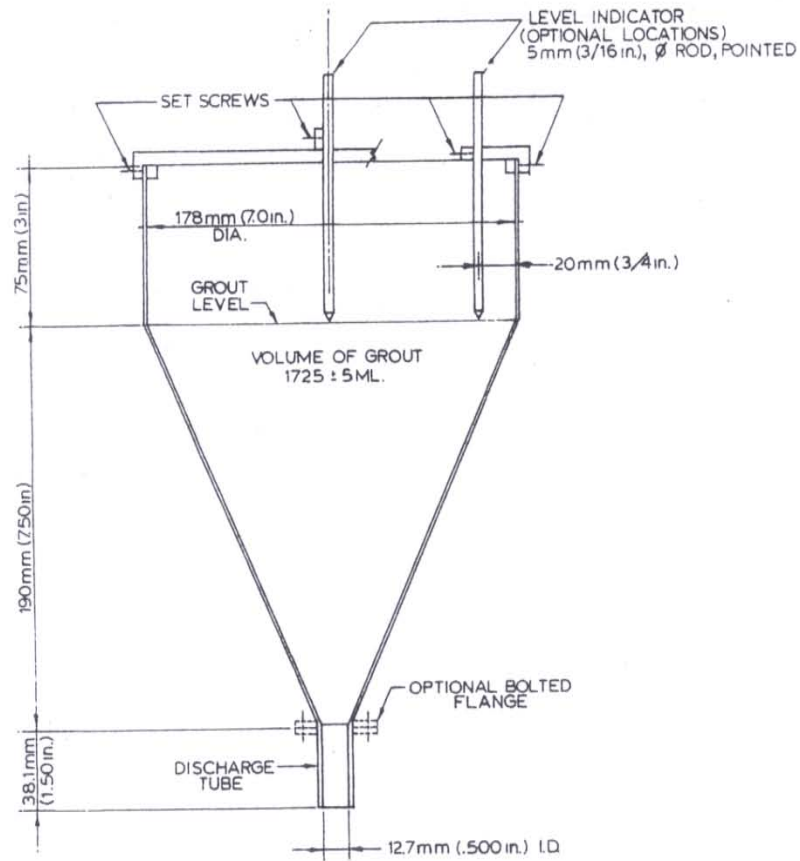

Figure 1 - Cross Section of Flow Cone
1. Flow Cone, with dimensions as shown in Figure 1. The discharge tube shall be stainless steel. The body can be stainless steel, cast aluminum, or other non-corroding metal.
1. The flow cone shall be firmly mounted in such a manner that the top will be level and the cone free from vibration. The discharge tube shall be closed by placing a rubber stopper from the underneath side into the lower end. A quantity of water equal to 1725 ± 5 mL shall be introduced into the cone to indicate the grout level as per Figure 1. Calibrate the cone in accordance with the manufacturer's recommendation.
Moisten the inside surface of the flow cone. Place rubber stopper into the outlet of the discharge tube. Introduce grout into the cone until the grout surface rises into contact with the grout level as per Figure 1. Start the stopwatch and remove the rubber stopper simultaneously. Stop the stopwatch at the first break in the continuous flow of grout from the discharge tube. The time indicated by the stopwatch is the time of efflux of the grout. At least two tests shall be made for any grout mixture. Results from two properly conducted tests on the same material should not differ by more than 2 ½ seconds.